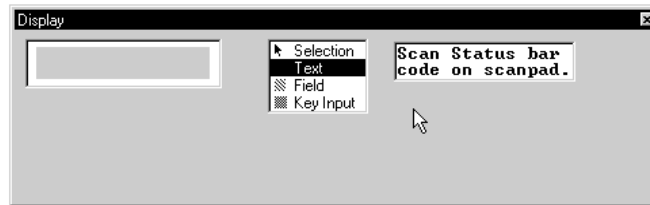

Figure 4-72 "Instruct3" Handler Message
45. At the **Display** window, type **Scan Status bar** on the top line, and type **code on scanpad.** on the second line (Figure 4-72).